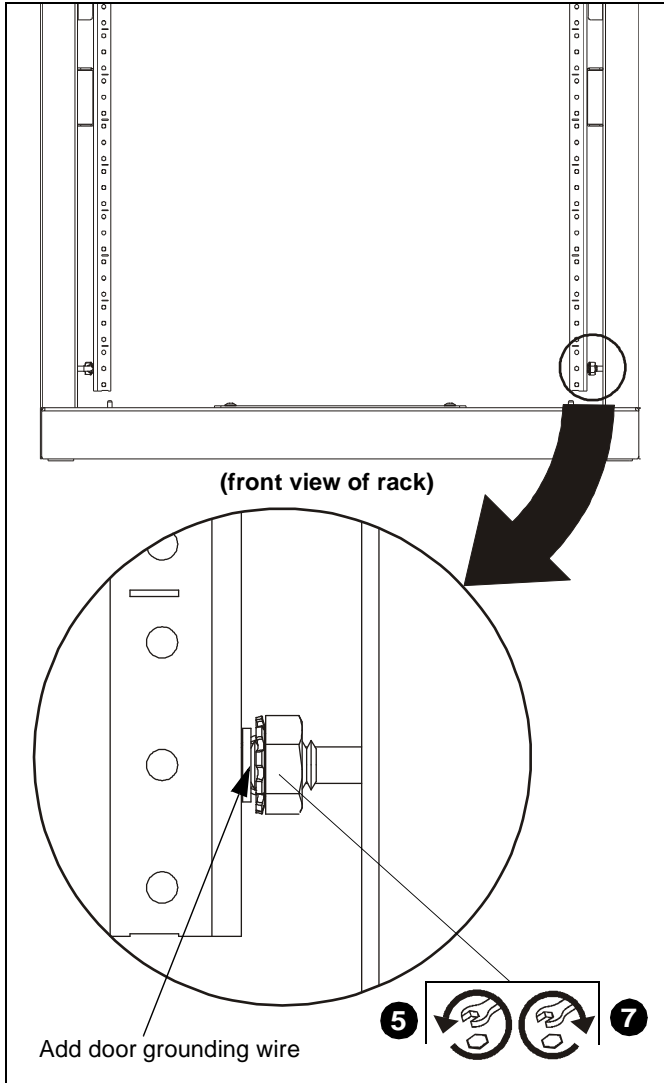

Figure 4
5. Remove and save nut from the grounding lug on rack side rail. (See Figure 4)
6. Attach grounding wire from door to the grounding lug. (See Figure 4)
7. Replace and tighten nut onto grounding lug. (See Figure 4)